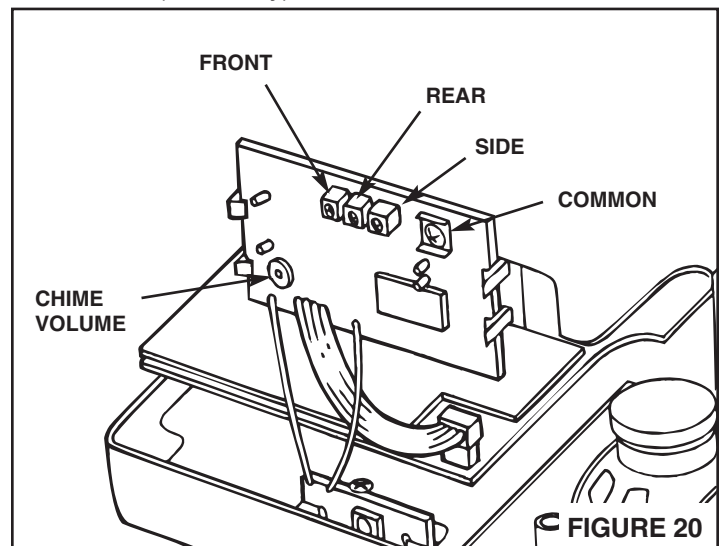

FIGURE 20
1. Refer to Figure 20. Identify the front chime pushbutton wires.